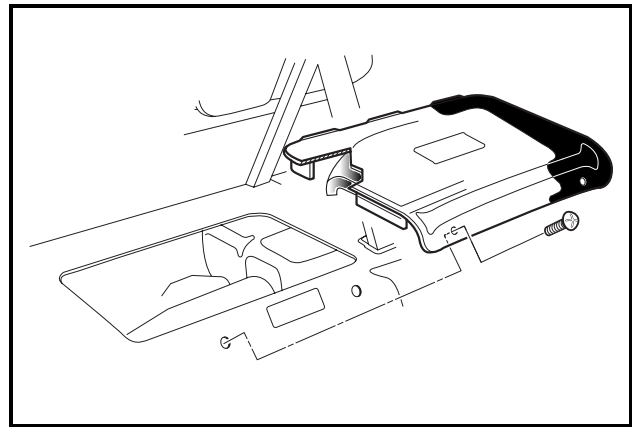

FIGURE 12-35
1. Remove access panel from the body (**Figure 12-35**).